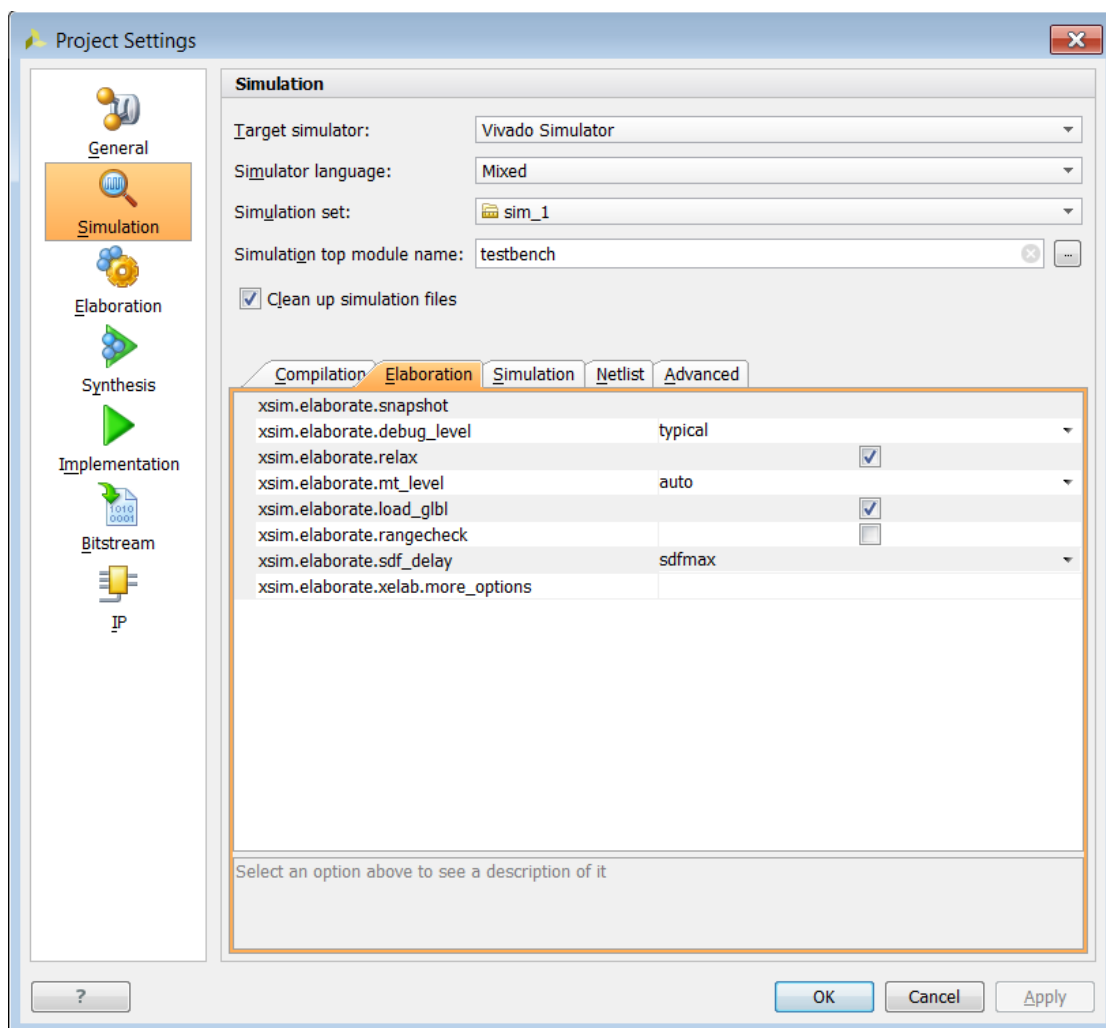

Figure 13: Simulation Settings: Compilation
2. In the **Elaboration** tab (Figure 13), ensure that the debug level is set to **typical**, which is the default value.